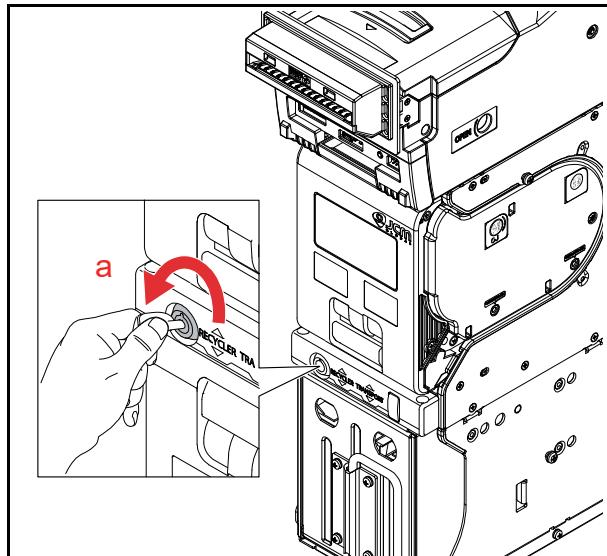

**Figure 2-14 UBA Pro Unit Banknote Jam Clear**
1. Lift up on the Upper Guide Access Lever to open the UBA Pro's Cover (Figure 2-14 a).
2. Remove any jammed Banknote found there. (Figure 2-14 b).